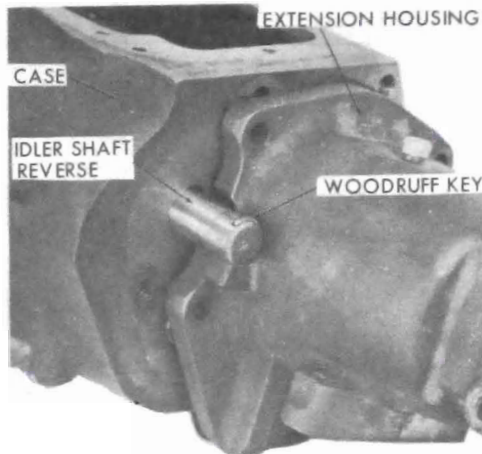

Figure 72-340 Installing Reverse Idler Shaft
8. Rotate extension housing and install reverse idler shaft and its woodruff key so that end flat of shaft is flush with rear face of case. See Figure 72-340.